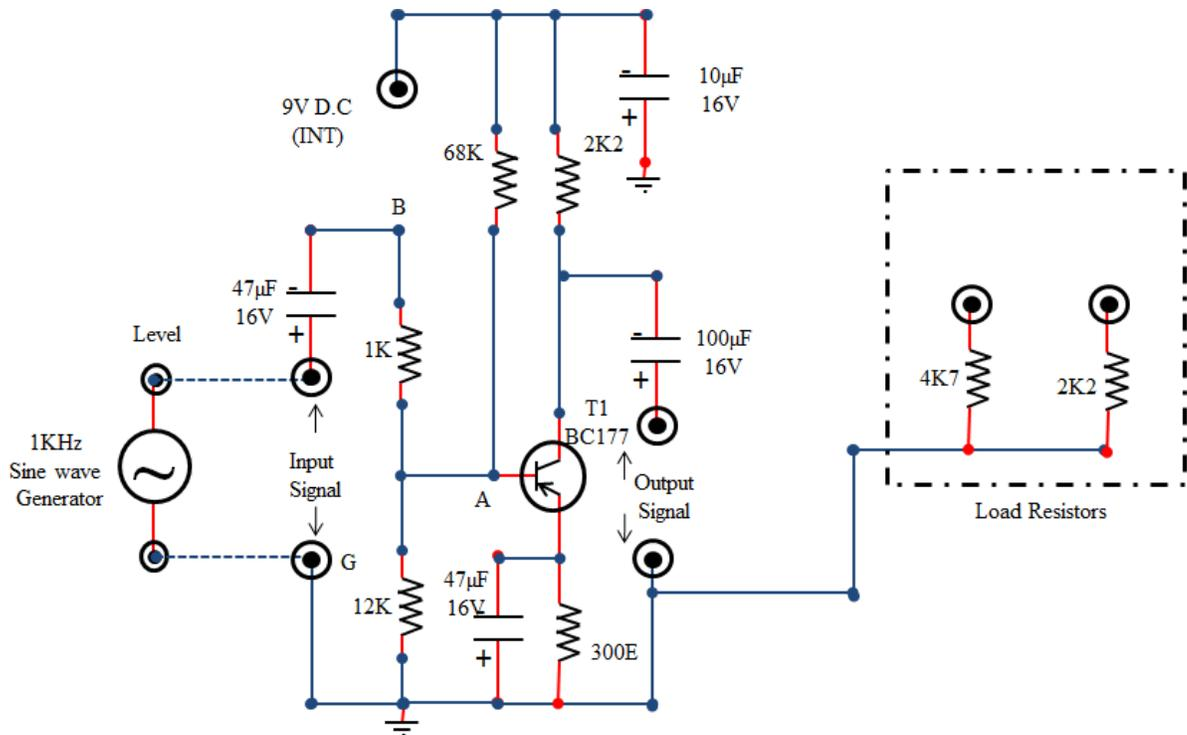

Figure 2. Study of common emitter transistor amplifier
**OBJECTIVE 1: STUDY OF COMMON EMITTER (CE) TRANSISTOR AMPLIFIER CIRCUIT AND EVALUATION OF ITS INPUT AND OUTPUT RESISTANCE, VOLTAGE GAIN, CURRENT GAIN AND POWER GAIN**
1. Turn the knob marked level of 1 KHz sine wave generator to fully anti clockwise direction and using connecting leads connect the output of sine wave generator to the input of common emitter transistor amplifier. Also connect 4K7 resistor as load to the output. Refer to Figure 2.